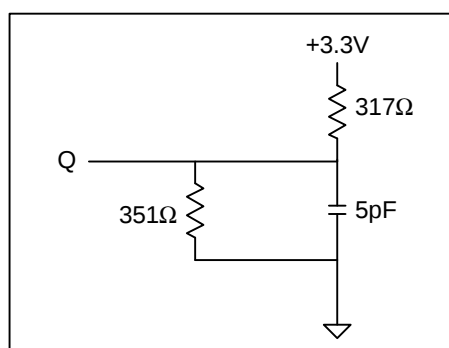

Figure 2
4. The load used for V_{OH}, V_{OL} testing is shown in Figure 2. AC load current is higher than the shown DC values.
2. Output loading is specified with C₁=5pF as in Figure 2.